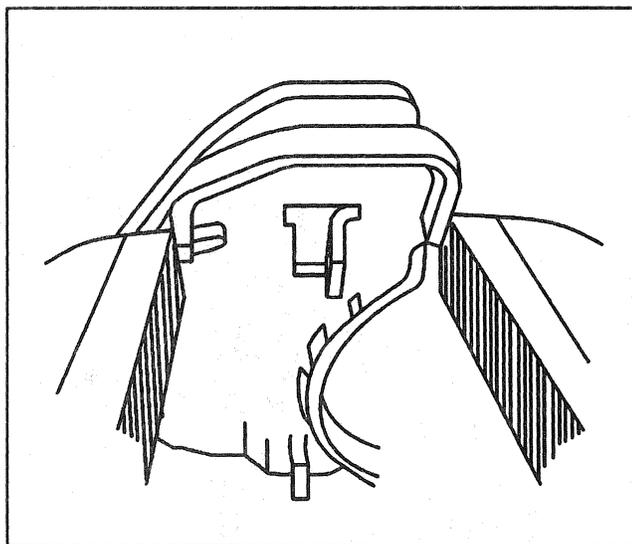

Figure 9—Crimping Outer Brake Pad
→ Install or Connect (Figures 9 through 12)
2. Place new pad in a vise (Figure 9).